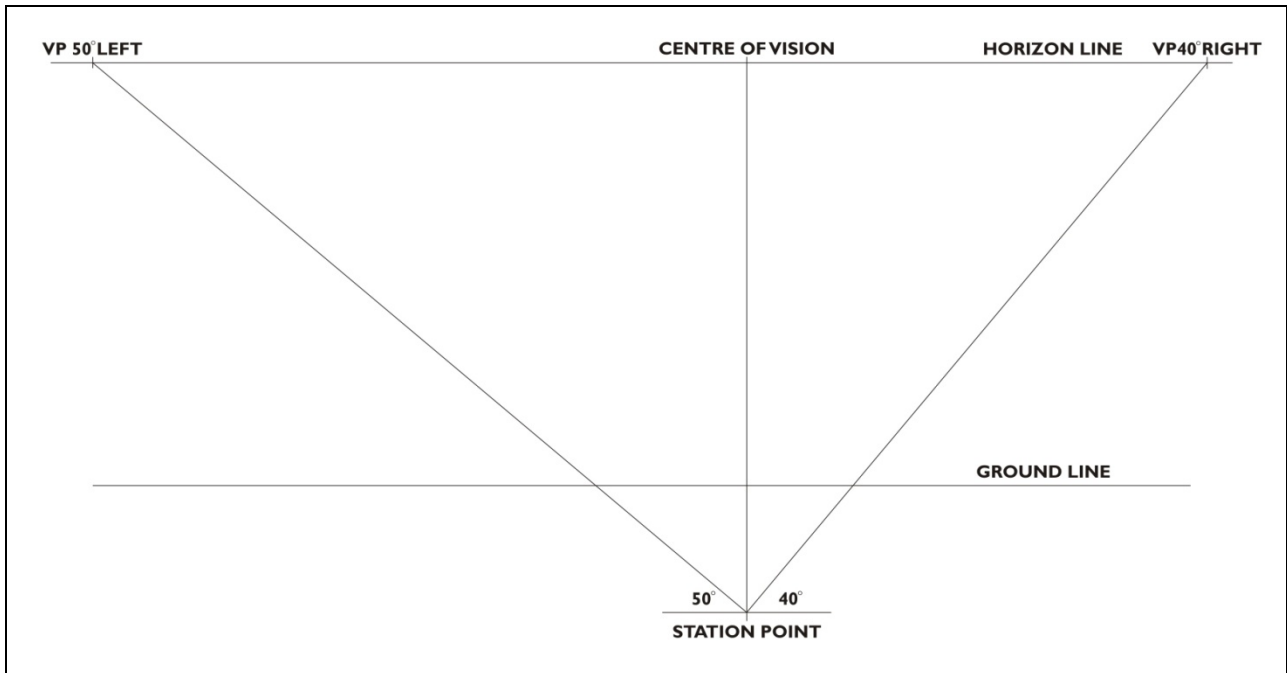

Figure 3.2 Two-point perspective measuring-point plan
1. Locate the vanishing point at the intersection of the horizon line and the centre of vision. Refer to Figure 3.2.